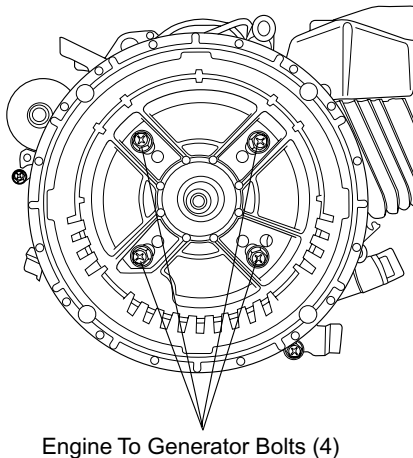

Figure 34: Front Cover Bolts
- (9) When the shafts separate, place the rotor on a shop towel and let the oil drain from the shaft. Wipe up oil that drained into the front cover.
- (10) The front cover may remain installed unless it is damaged or the engine is being replaced. To remove the front cover, remove four bolt and washer assemblies (13), (Figure 34).